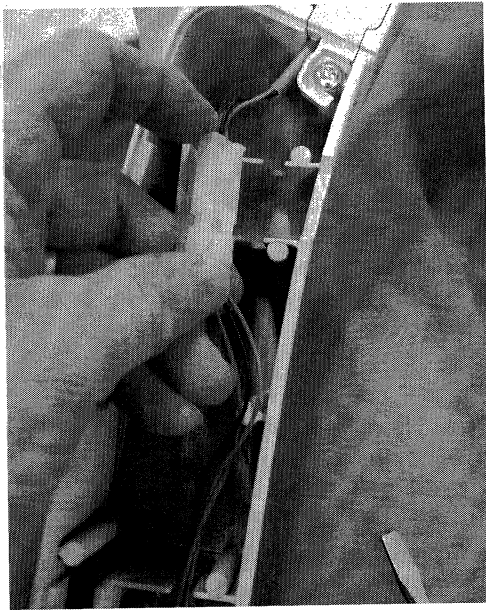

Fig. 16
15. Connect Switch Assembly to the Armrest Harness. Tuck wires and connector into the channel within the arm. [Fig. 16]